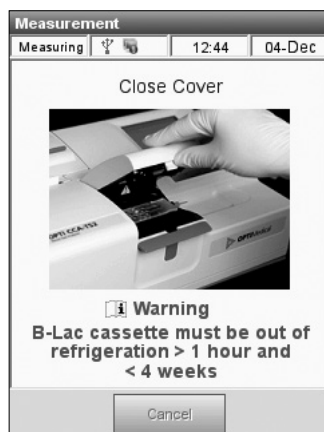

Fig. 5-11 B-Lac Close Cover
- Close the SMC cover (Fig. 5-11).